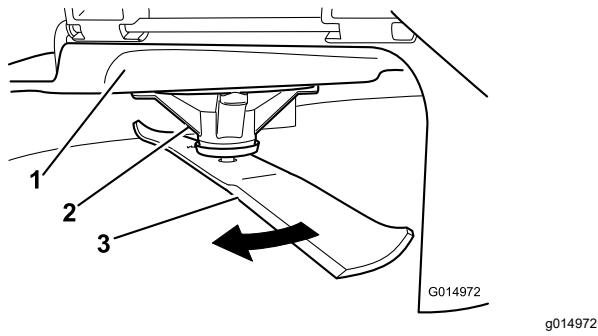

Figure 88
2. While wearing thickly padded gloves, or other adequate hand protection, slowly rotate the blade into a position that allows you to measure the distance between the cutting edge and the level surface the machine is on (Figure 88).